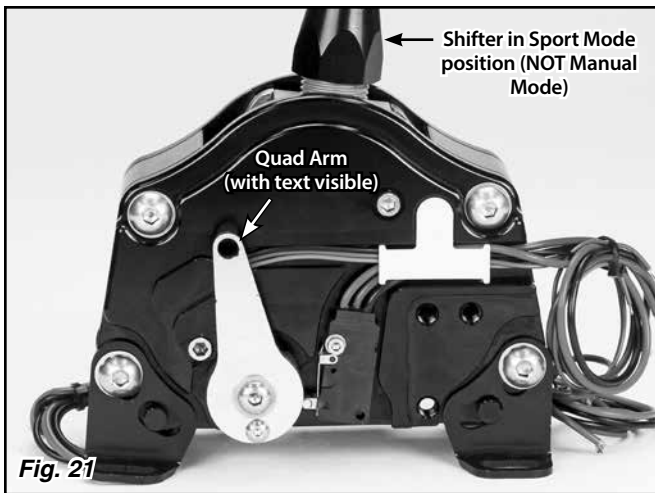

Fig. 21
- Step 7:** Note you can currently see the text on the outside of the quad arm. Use a 3/32" Allen wrench to remove the #8-32 x 3/8" button head bolt from the quad arm. **Fig. 21**